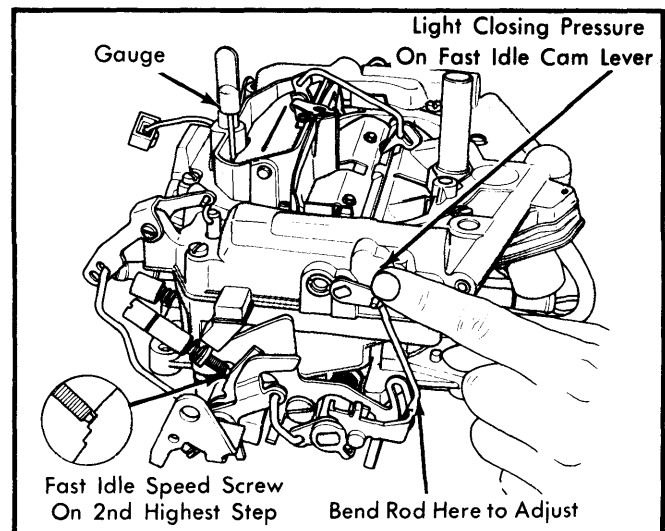

Fig. 9 Adjusting Fast Idle Cam Position
1) Position fast idle speed screw on second step of fast idle cam. Close choke valve by applying light closing pressure on fast idle cam lever. See Fig. 9.